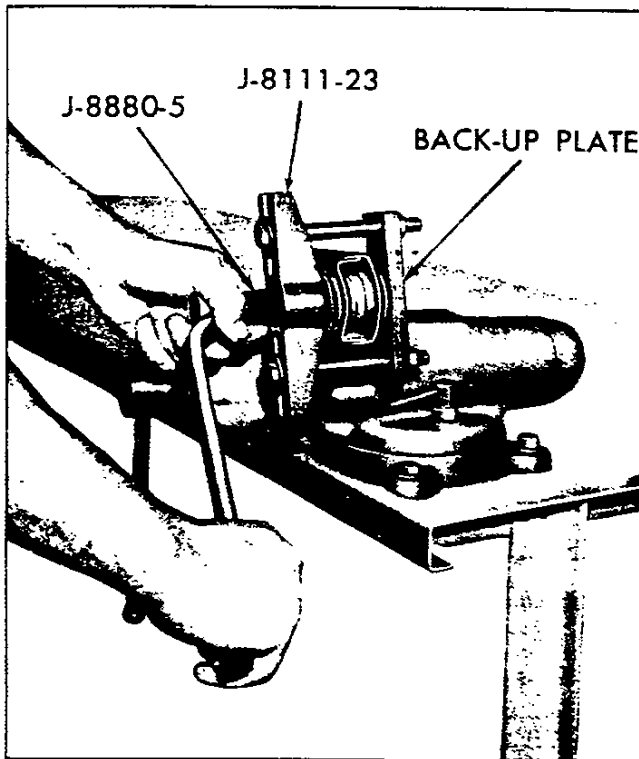

Fig. 29—Flaring Retainer
9. Lightly oil pointed end of J-8880-5 screw and thread into J-8111-23 until pointed end contacts bushing retainer. Continue threading J-8111-23 until retainer is flared (fig. 29).